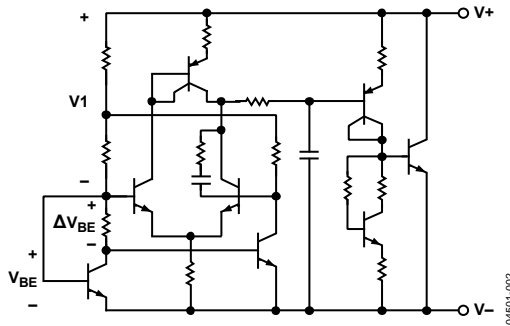

Figure 18. Circuit Schematic
The ADR520/ADR525/ADR530/ADR540/ADR550 use the band gap concept to produce a stable, low temperature coefficient voltage reference suitable for high accuracy data acquisition components and systems. The devices use the physical nature of a silicon transistor base-emitter voltage ( $V_{BE}$ ) in the forward-biased operating region. All such transistors have approximately a  $-2\text{ mV}/^\circ\text{C}$  temperature coefficient (TC), making them unsuitable for direct use as low temperature coefficient references. Extrapolation of the temperature characteristics of any one of these devices to absolute zero (with the collector current proportional to the absolute temperature), however, reveals that its  $V_{BE}$  approaches approximately the silicon band gap voltage. Thus, if a voltage develops with an opposing temperature coefficient to sum the  $V_{BE}$ , a zero temperature coefficient reference results. The ADR520/ADR525/ADR530/ADR540/ADR550 circuit shown in Figure 18 provides such a compensating voltage ( $V1$ ) by driving two transistors at different current densities and amplifying the resultant  $V_{BE}$  difference ( $\Delta V_{BE}$ , which has a positive temperature coefficient). The sum of  $V_{BE}$  and  $V1$  provides a stable voltage reference over temperature.